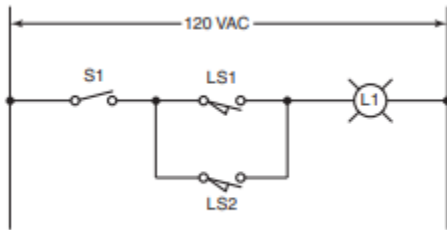

Figure 1-31 Circuit for Problem 4.
4. Write a program for the relay ladder diagram shown in Figure 1-31 .